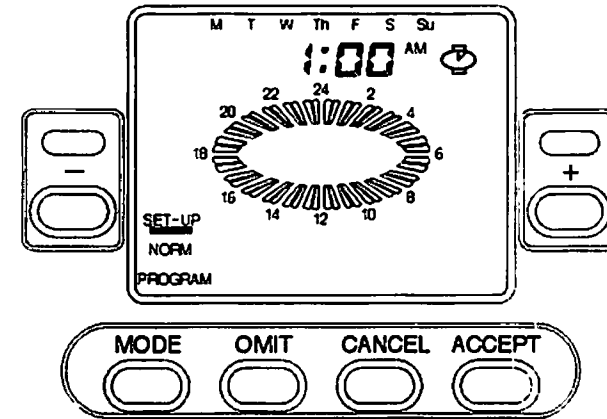

Fig. 5
2. Press MODE button and repeat until SETUP is indicated on LCD. See Fig. 5, page 12.